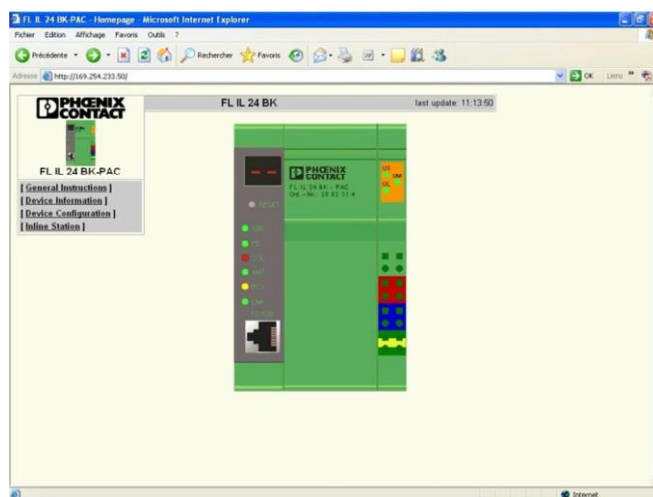

Figure 9. Phoenix web interface.
- Once the IP address is configured you can now connect to the bus controller using a web interface. Open Internet Explorer for example and type the following address (see Figure 9) :